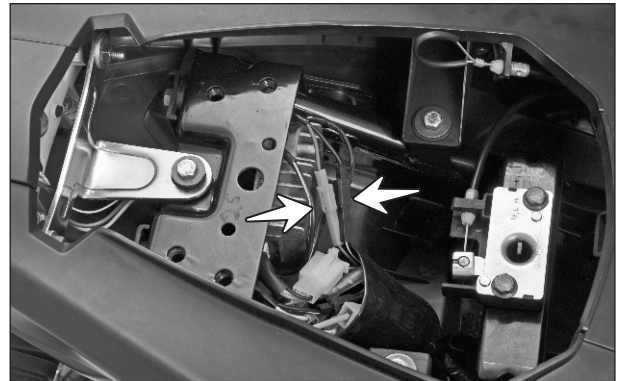

Fig. 5.60
- Disconnect the number plate lamp couplers from the main wiring harness. (Fig. 5.60)